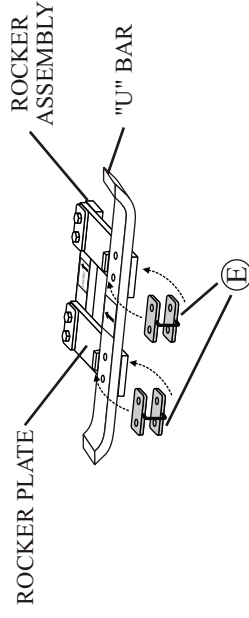

Figure 1
Step 3: Important: We recommend 2 people work together to assemble the chair. Note the arrow labels on the "U" bar and the rocker assembly. Also note the horseshoe shape of the rocker plate. Point the open end of the horseshoe away from you. The arrows on the rocker assembly should be pointing towards you. Set the chair frame on the rocker assembly with front of the seat facing you and the arrows on the "U" bar pointing towards you as shown in *Figure 1*. This is very important for a safe, balanced rocking motion. **If chair frame has been properly positioned on the rocker assembly, all arrows on the "U" bar and rocker assembly will be pointing in the same direction.**
Step 4: Critical Step: The "U" metal plates must be installed in the proper location. Read this step and carefully examine. Insert the "U" metal plate, so that the "U" bar and rocker plate are between both sides of the "U" metal plate. Make sure that the holes in the "U" metal plate are completely aligned with the holes in the "U" bar as shown in *Figure 1*. Guide the bolts through the holes on the top side of the "U" metal plate, through the holes in the "U" bar portion of the chair, through the holes in the rocker plate and then, most importantly, through the holes in the bottom side of the "U" metal plate. It is very important that the holes in the bottom portion of the "U" metal plate be placed directly beneath the holes in the rocker plate. Add a spring washer and a nut to each bolt as shown in *Figure 2*. **Hand tighten nuts 3-4 revolutions only.** Repeat the same procedure on the other side.